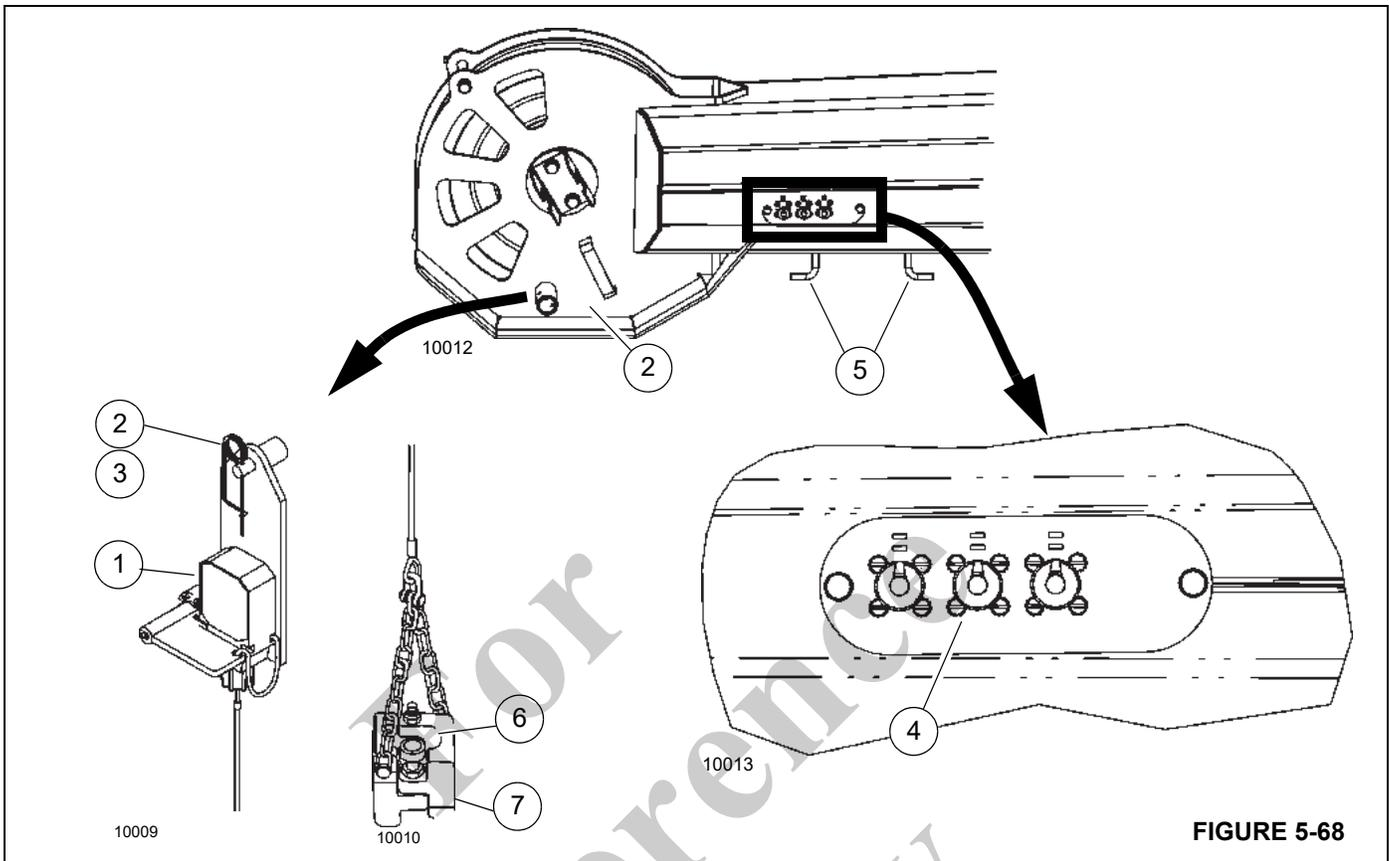

FIGURE 5-68
1. Install the anti-two block switch (1, Figure 5-68) on the bracket (2) on either side of the fly section nose. Secure with retaining clip (3).
2. Remove protective cap from the socket (4). Connect the switch electrical connector to the socket (4).
3. Secure excess wire on stowage hooks (5) as necessary.
4. Remove safety pin (6) and install anti-two block weight (7) around the hoist rope. Install the safety pin (6).
1. Remove safety pin (6, Figure 5-68) and switch weight (7) from hoist rope.
2. Remove electrical connector from socket (4).
3. Install protective cap on socket (4).
4. Remove retaining clip (3) and remove anti-two block switch (1) from bracket (2).
5. Install the anti-two block switch (1) on the main boom.